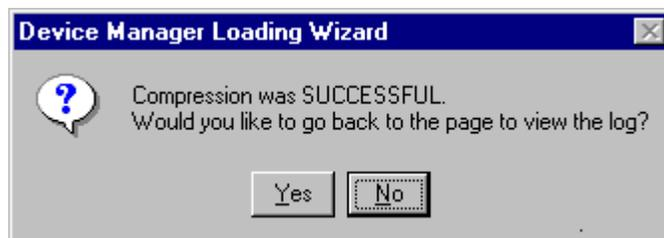

Figure 5.6 – Confirmation Dialog
13. Click Next. The Loading Wizard will now compress the selected database. The progress of the compression will be displayed in the *Progress* pane. When compression has been completed the dialog box in figure 5.6 indicates success or failure.